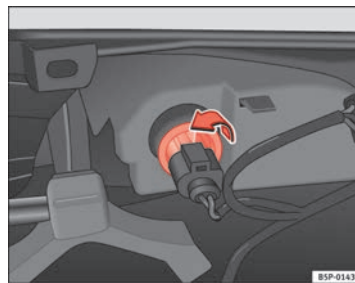

Fig. 194 Lamp on interior side of bumper
- Rotate the bulb holder to the left, and remove it in the direction of the arrow ⇒ fig. 194.